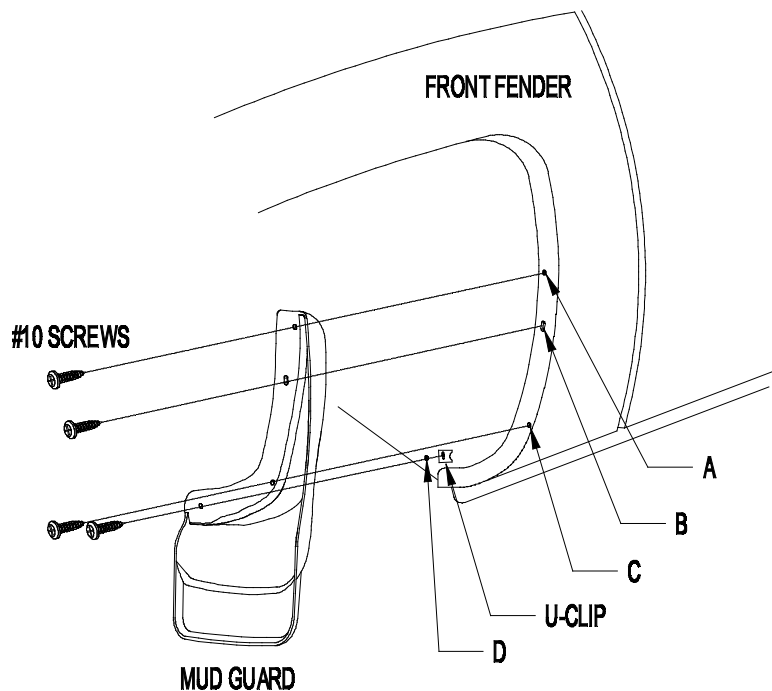

Figure 1
2. Remove existing fastener from location B (Figure 1).